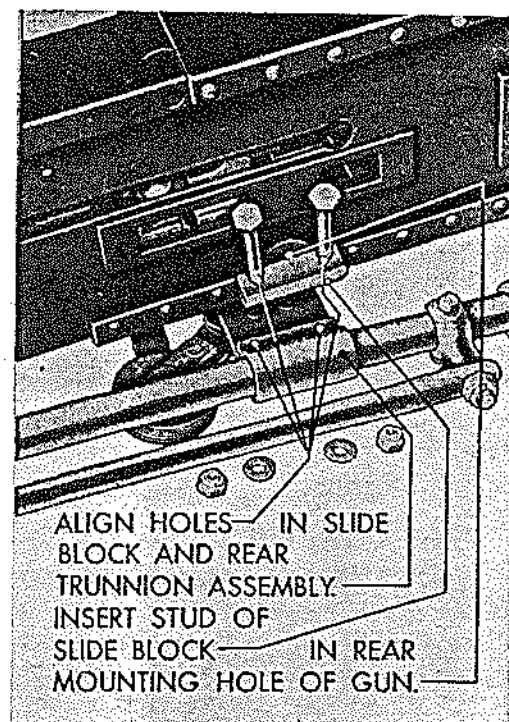

Figure 26B
- (c) Insert studs of slide blocks in rear mounting holes of gun as shown in Fig. 26B.
- (e) Align holes in the rear trunnion assembly as shown in Fig. 26B. Bolt blocks to rear trunnion assembly.